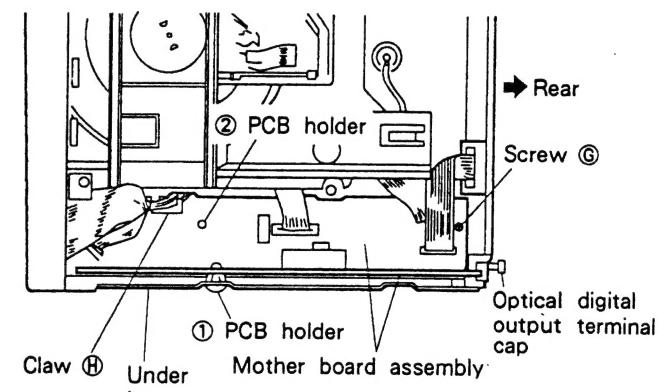

Fig. 2 - 3.
- ③ Remove screw ⑨ holding the mother board assembly.
- ④ Remove the bundle of wires of the mother board assembly from claw ⑪ of the loading base.
- ⑤ After removing the board from the PCB holder in the order of ① and ② shown in Fig. 2 - 3, pull it out.